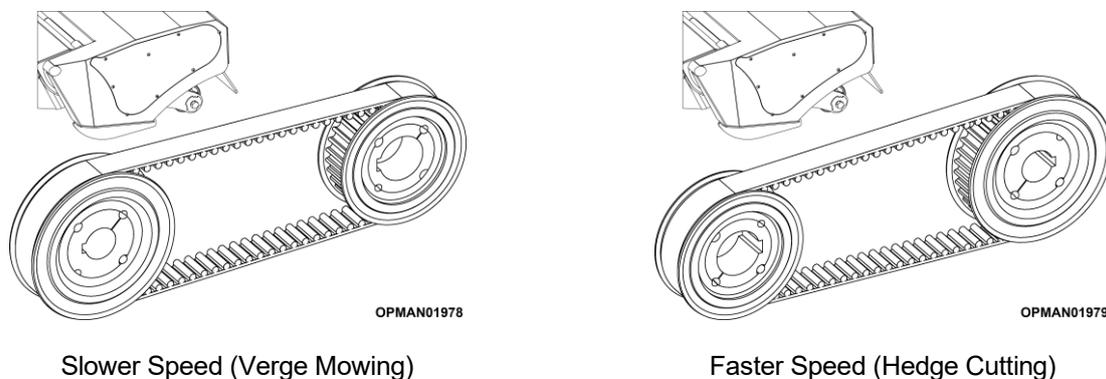

Figure 5.20
- 5.7.4.7 Reinstall each of the keyways, if removed, and then both of the pulleys and pulley clamping elements onto the required pulley support and rotor shafts stub shafts for the correct speed orientation required; see Figure 5.20.